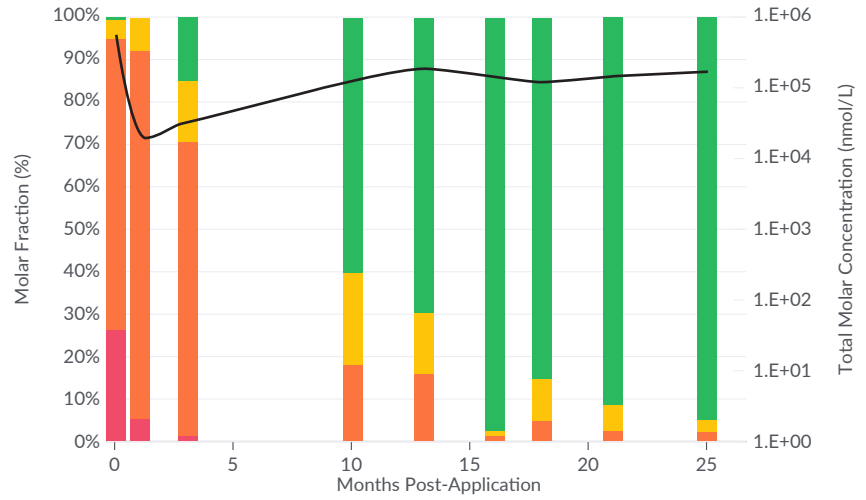

Figure 5
- DHC and vinyl chloride reductase (VCR) populations, initially augmented by the injection of BDI+, have been sustained at greater than 10⁴ cells/ml Figure 5.